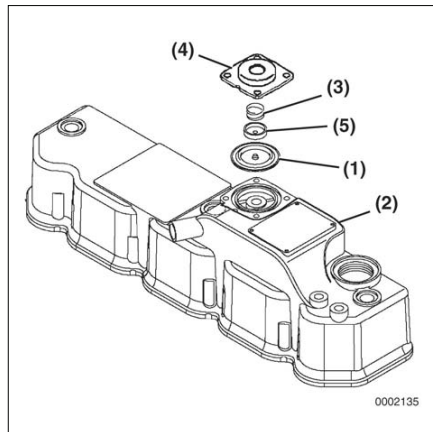

Figure5-19
4TNV98 engines use a crankcase breather system that has a spring-backed diaphragm (**Figure5-19, (1)**) in the valve cover (**Figure5-19, (2)**). When the crankcase pressure reaches a predetermined value, the diaphragm opens a passage that allows crankcase fumes to be routed to the intake manifold.
To inspect the diaphragm and spring (**Figure5-19, (3)**):
1. Remove the bolts retaining the diaphragm cover (**Figure5-19, (4)**).
2. Remove the diaphragm cover, spring, diaphragm plate (**Figure5-19, (5)**) and diaphragm.